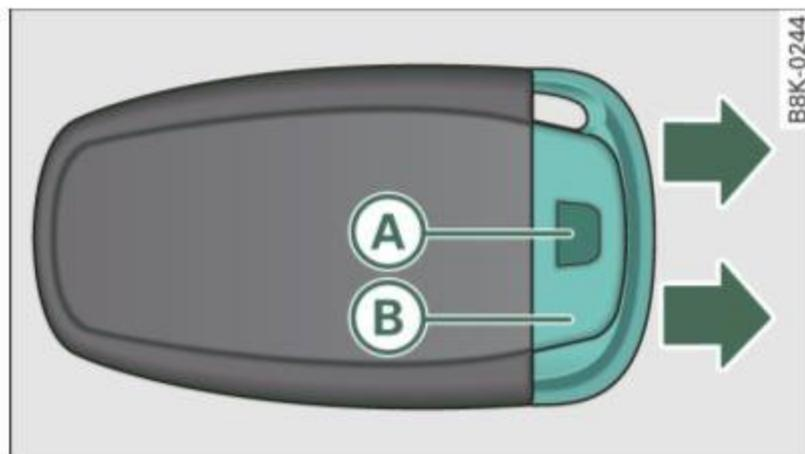

Fig. 30 Remote master key: Removing the mechanical key
- Press the release button **(A)** ⇒ fig. 30.